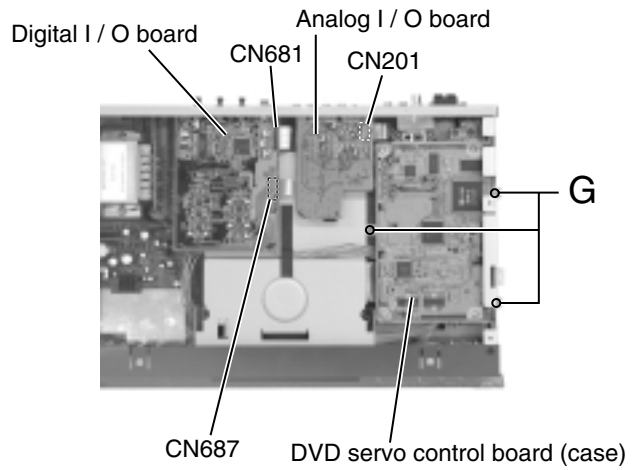

Fig.18
**■Removing the analog I / O board / the digital I / O board (See Fig.18 and 19)**